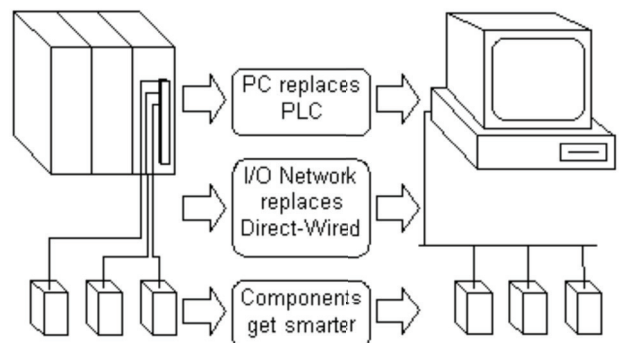

Fig. 1 - Summary of Market Trends
A Smart System, as described herein, is one that uses a personal computer (PC) and the SDS as the control architecture. This is in contrast to using a programmable logic controller (PLC) and wiring the components to input and output cards on the PLC. Figure 1 below depicts the change that is occurring in the market for automation systems.